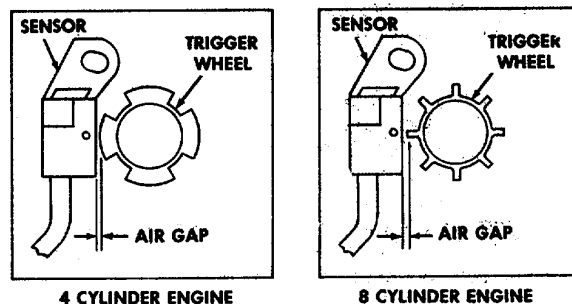

Fig. 59 Trigger Wheel-to-Sensor Air Gap
- a. Rotate trigger wheel until one tooth is aligned with centerline of sensor (trigger wheel tooth perpendicular to flat surface of sensor). (Fig. 59)
- b. Using feeler gauge, measure air gap between sensor and end of tooth (Fig. 59). Move sensor as needed to obtain specified air gap (see SPECIFICATIONS). Tighten sensor mounting screw and recheck air gap.